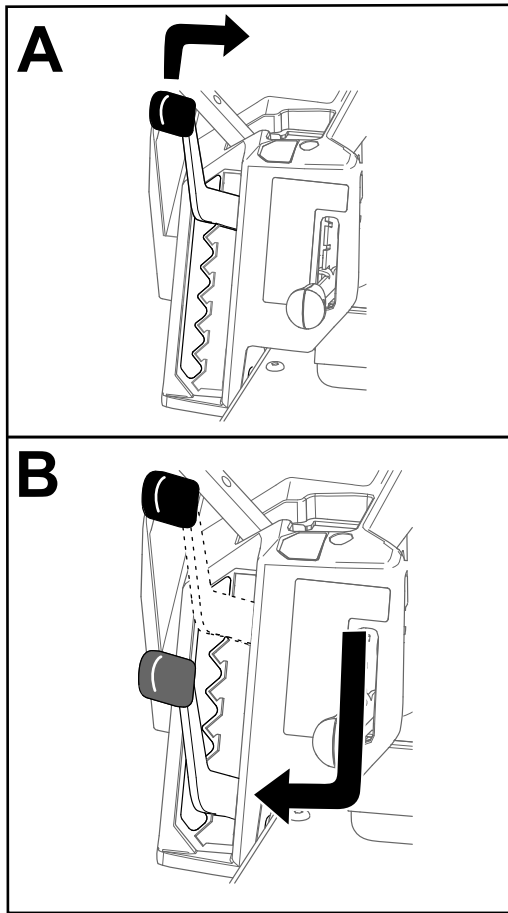

Figure 22
**Note:** The transport position is the highest height-of-cut position or cutting height at 114 mm (4-1/2 inches) as shown in Figure 22.
Height of cut is controlled by the lever located to the right of the operating position (Figure 22).